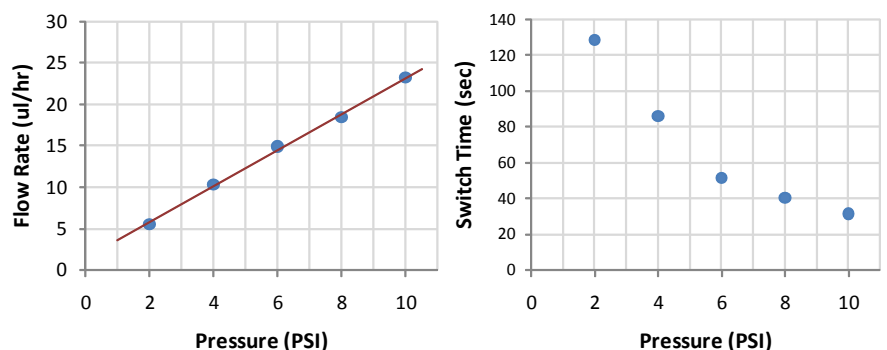

Figure 4 Flow Properties
9. To switch flow, first turn on the other switch before shutting off the existing flow. Flow rates and switching times are given in Figure 4.